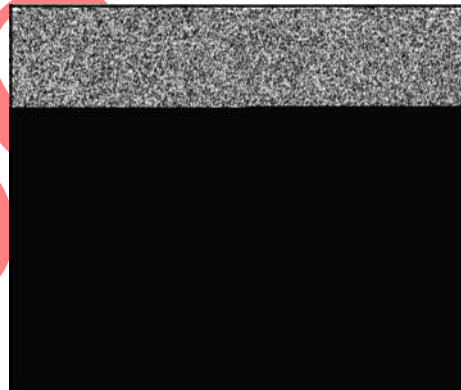

Figure 23
1. Using C-Ring Removal Tool #19522, remove and discard old C-ring (Figure 23).